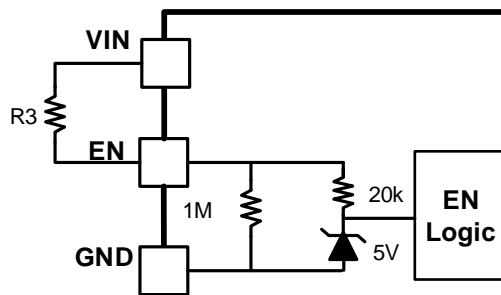

Figure 7. Adjustable VIN UVLO
An internal 1M resistor from EN to GND allow EN float to shut down the chip. EN is clamped internally using a 5V series diode. For applications where a specified VIN UVLO voltage needs to be set, EN connects a resistor R3 to VIN to form a voltage divider with a 1M resistor inside the chip for the configuration of VIN UVLO voltage, as shown in Figure 7. The resistor distributor R3 is calculated by Equation (3).